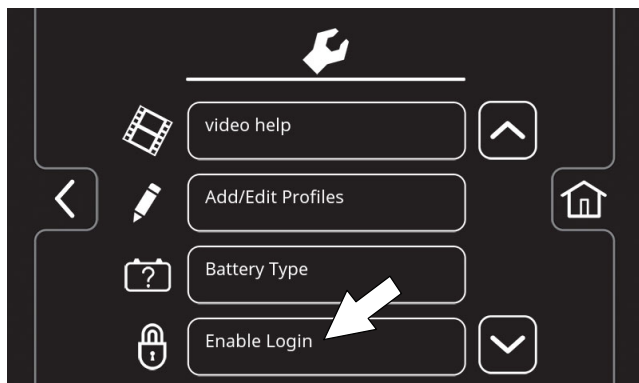

FIG. 187
4. Press the Enable Login button (Figure 187). The Enable button will change from Enable Login to Disable Login.